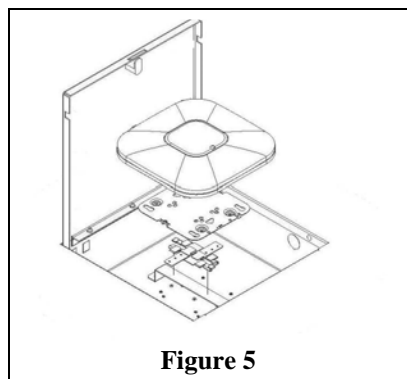

Figure 5
**Step 6 - (Optional)** Use the manufacturers T-Bar mount clip to attach the access point to the T-Bar mount inside the enclosure. An additional mounting plate provided by the manufacturer of the access point may be needed to attach the access point (Figure 5). Data cable(s) may need to be plugged in to the access point prior to attaching to the mount. **Cisco access points use Cisco AIR-AP-BRACKET-2 for 2600/3600 series access points and AIR-AP-BRACKET-1 for 1140/3500 series.**